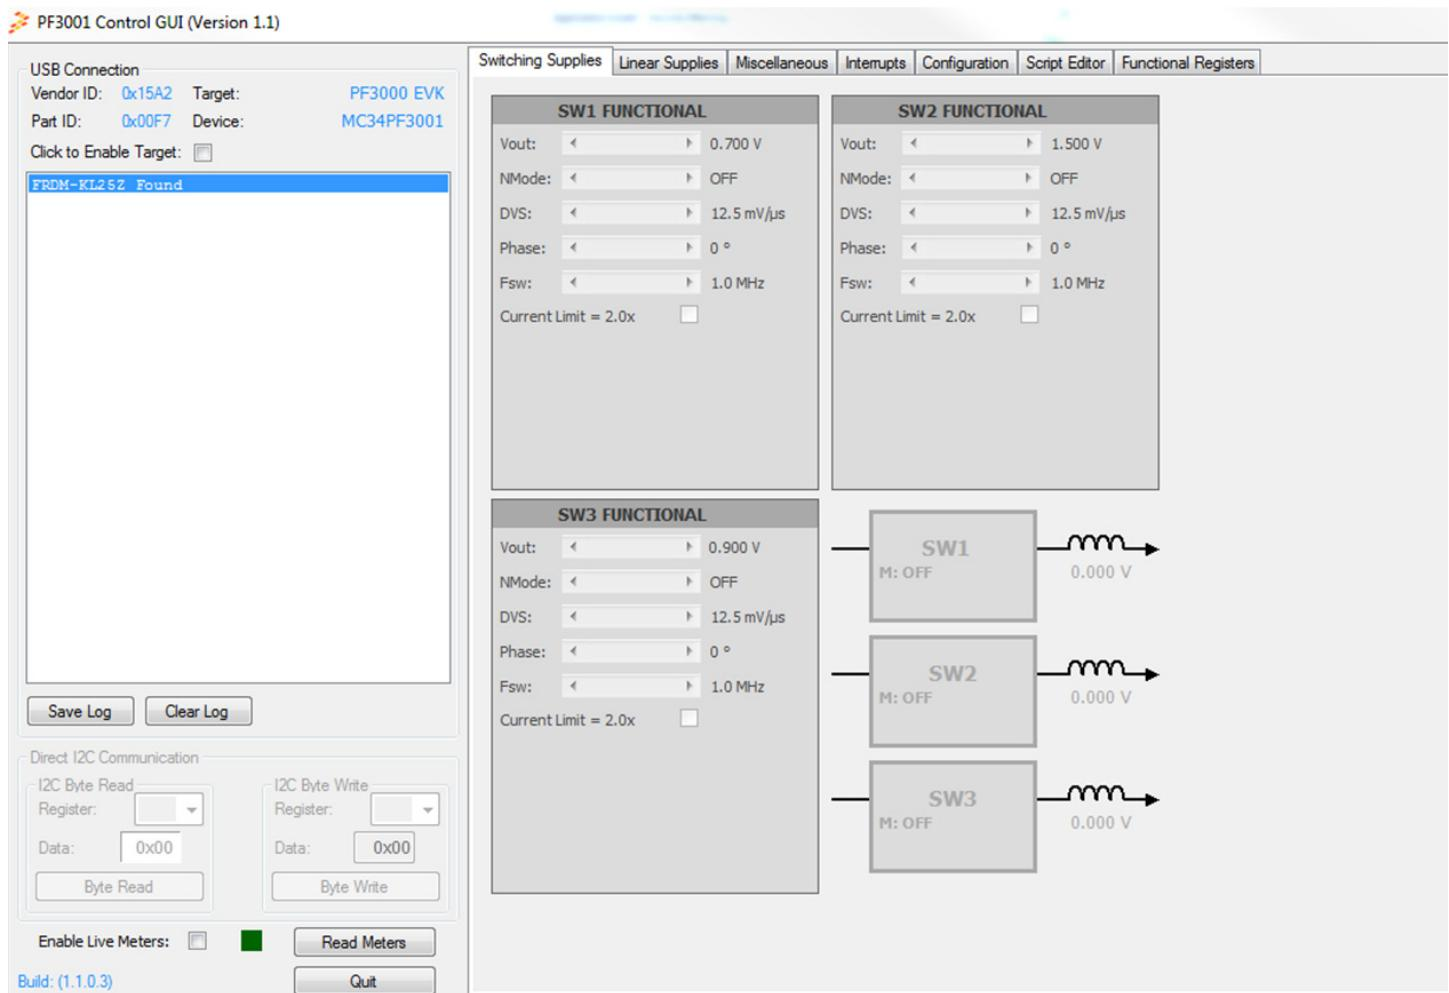

Figure 7. Installation Confirmation
4. The GUI installation is complete and the window shown in Figure 7 appears. Do not click on anything until the board is plugged in.